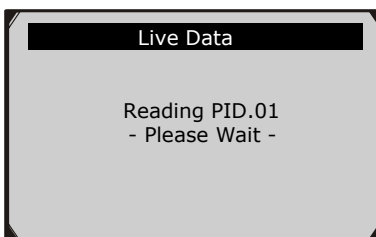

Figure 5.9
- 2) Wait a few seconds while the scan tool validates the **PID MAP**. (Figure 5.9)